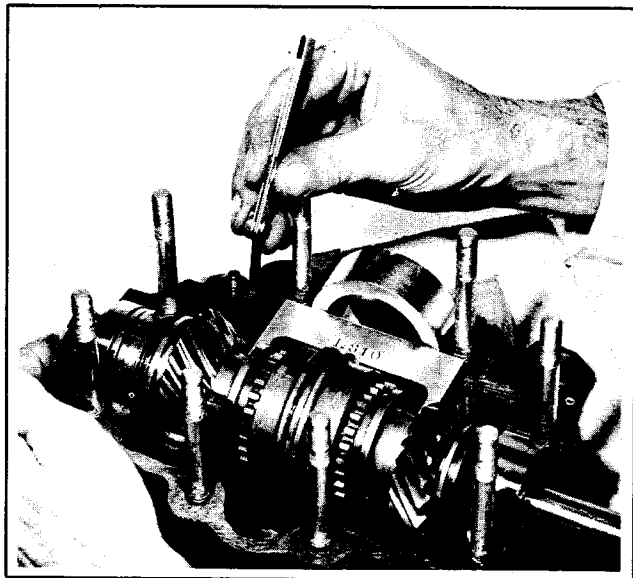

Figure 4D-51. Gauging Forward Pinion Spacing
Applying pressure to end of forward pinion assembly (1) Fig. 4D-48 and holding Pinion Gauging Tool in position, determine clearance between gauge finger and face of forward pinion. See Fig. 4D-51. NOTE: The number (1.810) stamped on 2.05 ratio gauging tool plus feeler gauge reading should equal the number etched on the large face of forward pinion. Use feeler gauge to determine exact existing clearance. If clearance is LESS than required, add necessary shims (26) Fig. 4D-48, to forward pinion assembly.